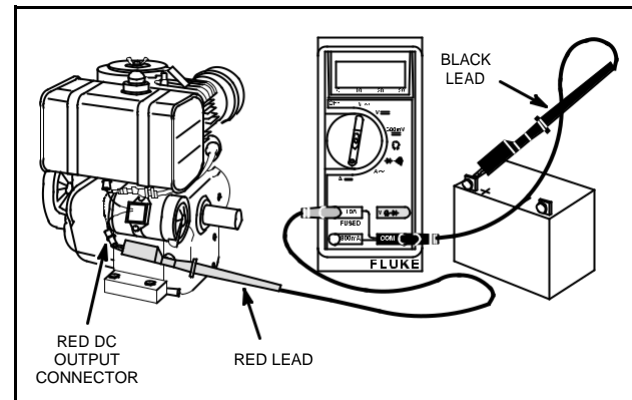

Fig. 782 – TESTING REGULATOR-RECTIFIER
4. Attach RED test lead clip to DC output terminal on regulator-rectifier, Fig. 782.